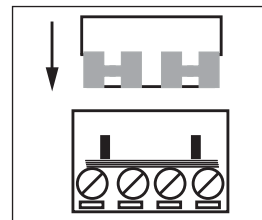

Fig 4 Continuity link
3. If a loop continuity test is to be done, it should be carried out before securing the call point to the backbox (step 5). Insert the continuity links supplied with the backbox (Fig 4) into the terminal blocks before testing. After testing for continuity, remove the connectors and store for re-use.